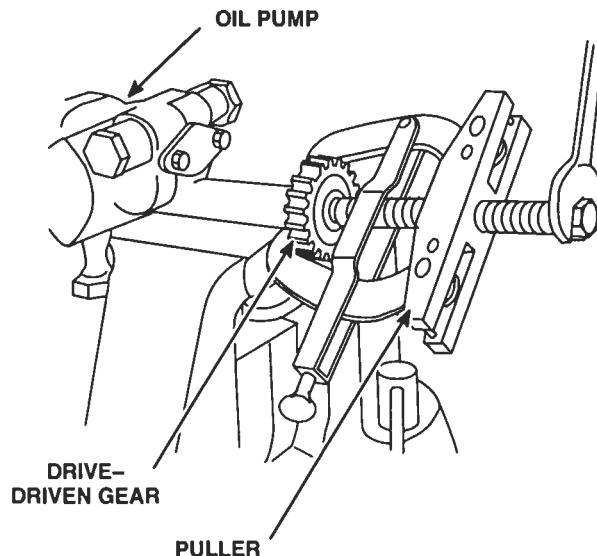

Figure 4. Removing Oil Pump Drive Gear from Shaft with Tool
11. Clamp the pump body, drive shaft and gear assembly in a bench vise. Pull the drive–driven gear from the outer end of the pump drive shaft (Figure 4.)